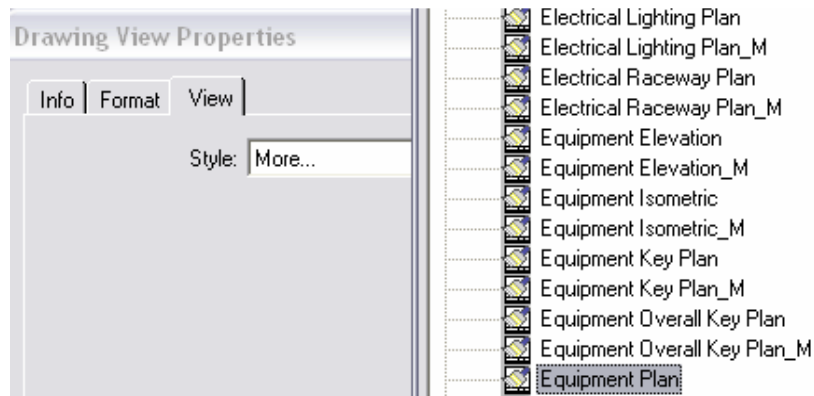

Figure 8: Select the Equipment Plan Style
11. Select More... in the Style field and select 'Orthographic\Equipment Plan' as shown in Figure 8.